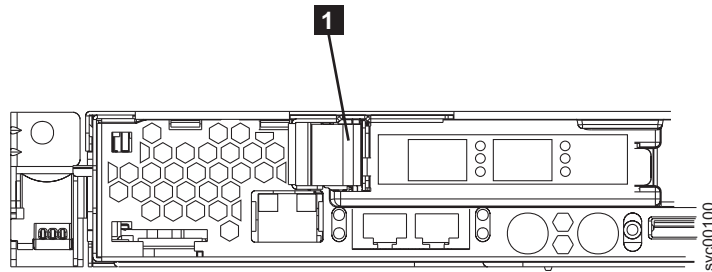

Figure 201. SAN Volume Controller 2145-8F4 or SAN Volume Controller 2145-8F2 PCI slot 1 card retainer
1. Install the fibre-channel card in slot 1, which is shown in Figure 201.